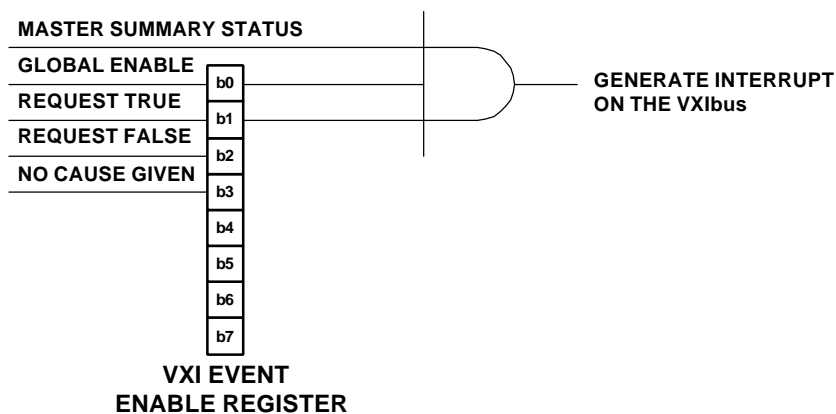

Figure 4-7. Frequency Condition, Frequency Transition Filter, Frequency Event, and Frequency Event Enable Registers
The VRFS can generate interrupts that are sent to the VXIbus commander in response to voltage events, frequency events, and disciplining events. A voltage event corresponds to a short-circuit fault in one or more of the eight front panel outputs. A frequency event corresponds to the crystal requiring adjustment, the rubidium oscillator locking, or rubidium oscillator unlocking. A disciplining event corresponds to the VRFS achieving or losing track of its external disciplining reference source. When an event occurs, the VRFS interrupts the VXIbus commander if it has been enabled to do so. Figure 4-7 shows the structure of the VXI Event Enable Register. The Master Summary bit provides the combined event status for the VRFS. If any enabled event occurs on the VRFS, the Master Summary bit is set. The Global Enable bit is set by the VXI low-level Asynchronous Mode Control command. The Request True bit is set upon power-up. Consequently, the VRFS responds to the VXIbus commander's interrupt acknowledge cycle with a Request True event. This indicates that during an interrupt acknowledge cycle, the VRFS places its logical address in the lower 8 bits (ID) and the request true event (FD16) in the upper 8 bits (status) of the 16-bit status/ID word.